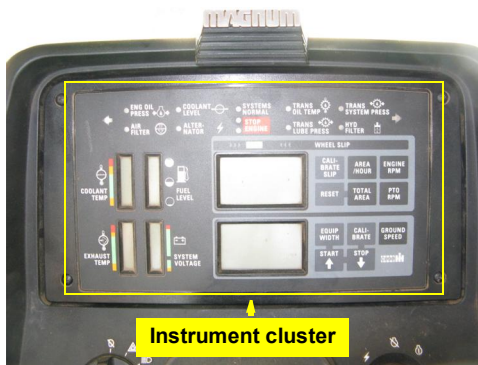

Figure 1b: Instrument cluster
- b. Remove the electronic instrument cluster and the top console panel. (Figure 1b).